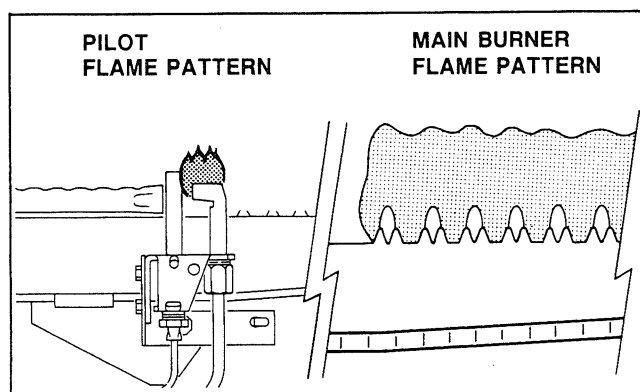

Fig. 26 Flame Patterns
6. Make a periodic visual check of the main burner and pilot flame patterns. They should resemble that shown in Fig. 26.